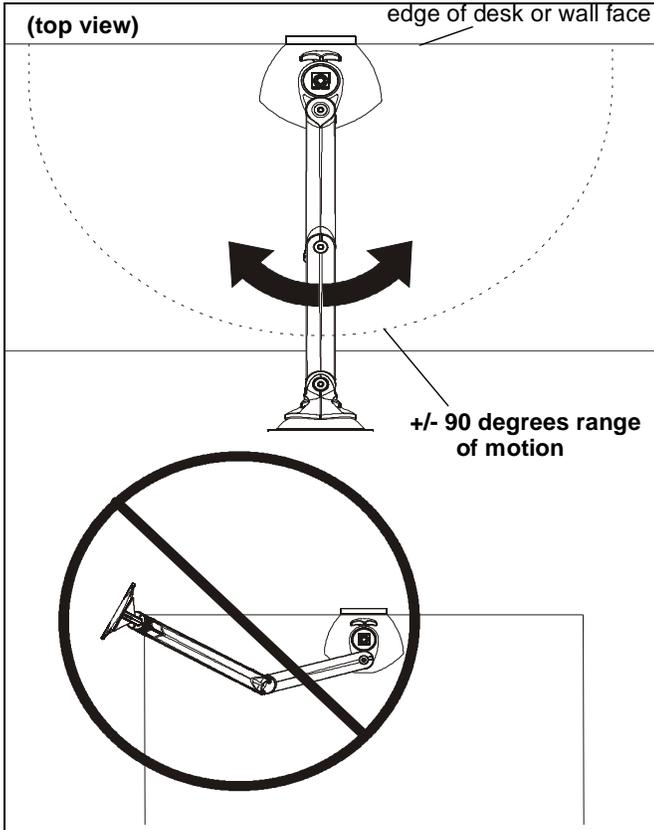

Figure 9
1. Adjust arm angle as desired up to 90 degrees in either direction. (See Figure 9)